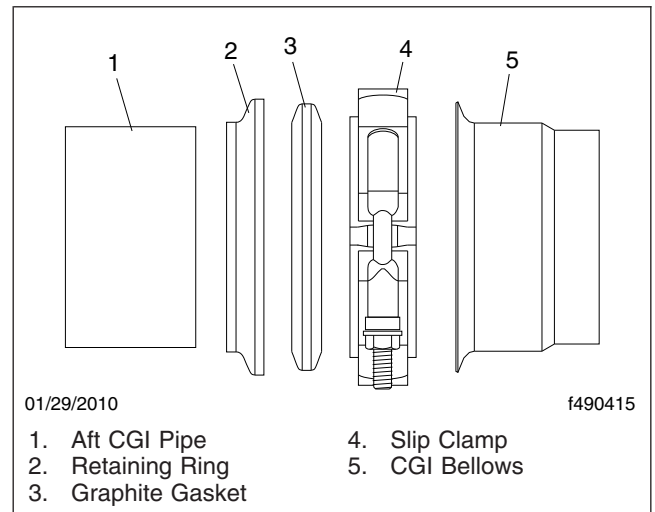

Fig. 8, Aft Facing Slip Clamp Installation
11. Slide the slip clamp, with the retaining ring and graphite gasket ring, on the aft CGI pipe. See **Fig. 8** for proper installation.